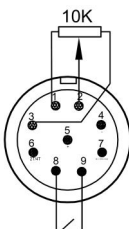

Fig 14.2
- connect the pedal remoter to the welder front panel pedal controller interface through dedicated cable. See Fig 14.2